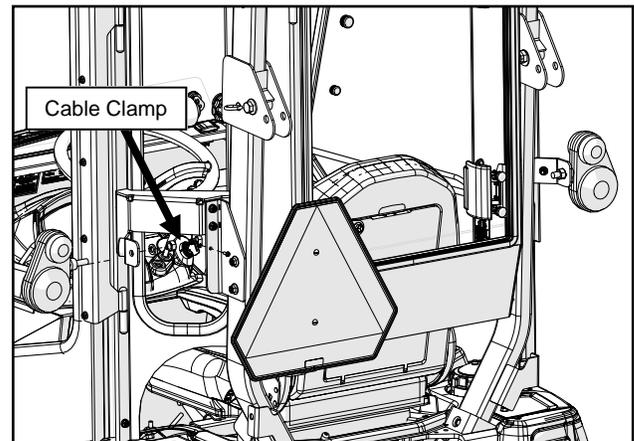

Fig. 24.3 (Relocate Rear Lights)
24.3 Thread the light wires through the hole in the light mount bracket and re-install the washer and nut. See Figure 24.3. Make sure the light is not crooked and tighten the nut.
24.4 Connect a rear light extension harness to the left rear light bullet connectors. Run the harness under the rear light mount and secure it with a cable clamp. See Figure 24.3.